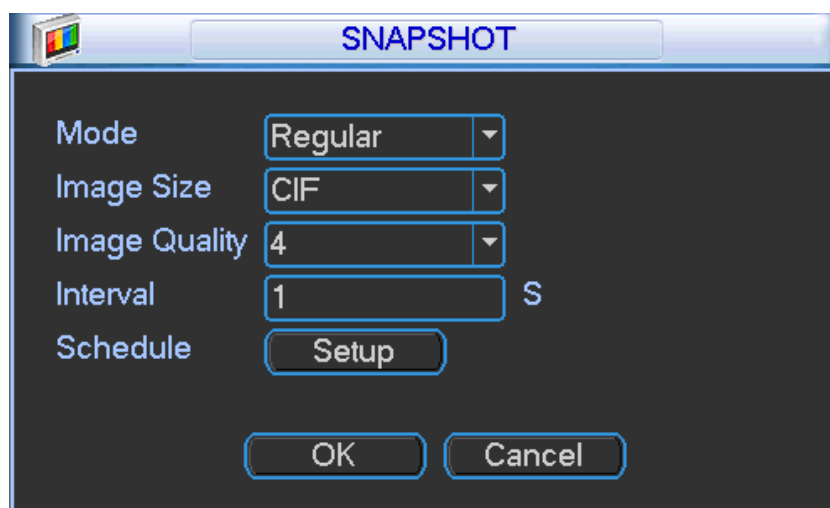

Figure 4-40
- Snapshot: Click snapshot button, you can set snapshot mode, picture size, quality and frequency. See Figure 4-40.